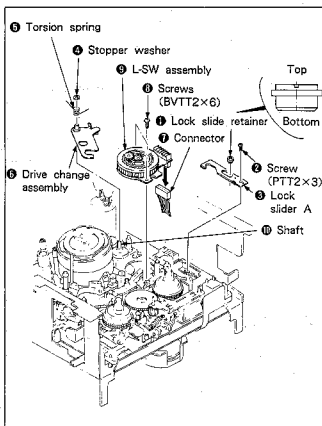
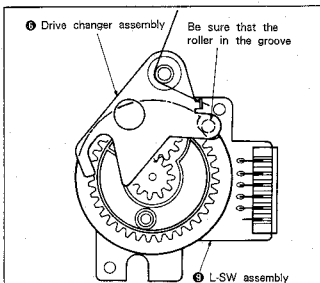

Fig. 7-33.
Fig. 7-35.
1. Removal (See Fig. 7-33.)
2. Mounting (See Fig. 7-33)
- 7) Mount the drive changer assembly ⑥. (See Fig. 7-33.)
- 8) Hook the torsion spring ⑤ and fix the stopper washer ④.
- 9) Operate the mode selector and confirm that the L-SW assembly ⑨ rotates.
- 10) Mount lock slider A ③ and tighten with screw ②.
- 11) Mount lock slider retainer ①.
- 12) Operate the mode selector and set to the position in Fig. 7-35.